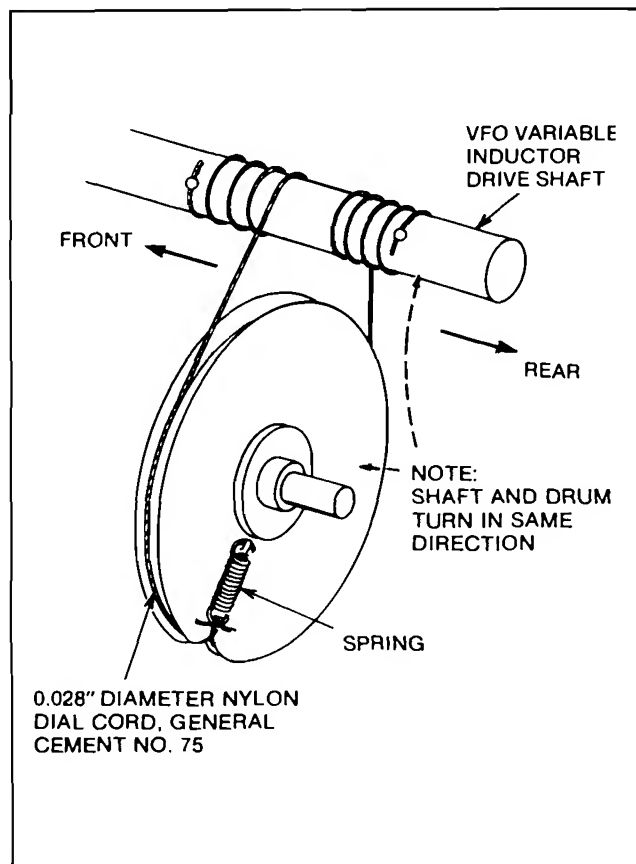

Figure 4-6 Varactor Tracking Capacitor, Dial Cord Installation
d. Install the replacement dial cord as shown in Figure 4-6. Use 0.028-inch diameter nylon dial cord, General Cement part number 75, or equivalent.